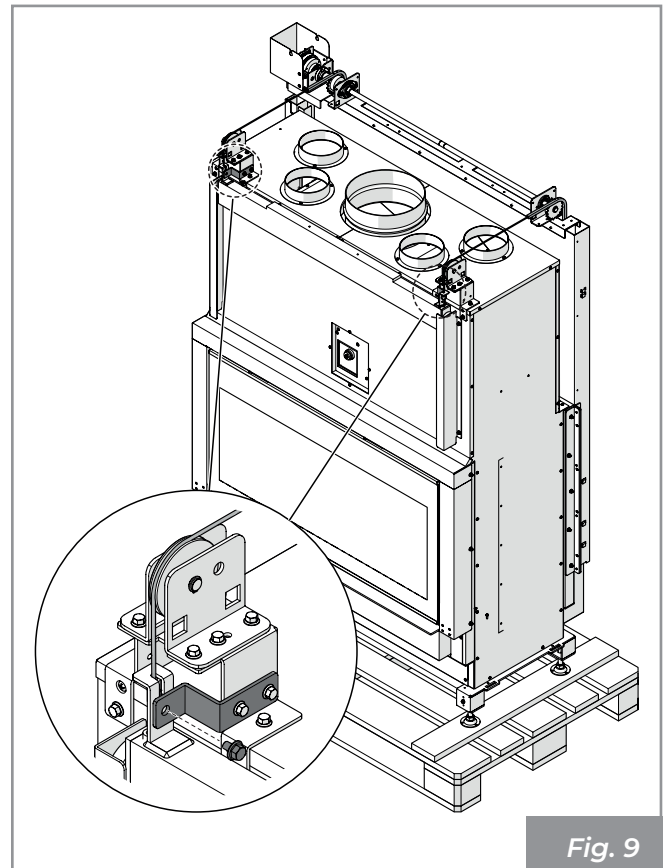

Fig. 9
- Make sure that the ropes are in the groove of the pulleys, then unlock the counterweight by removing the clamps and the fixing brackets (Fig. 9).